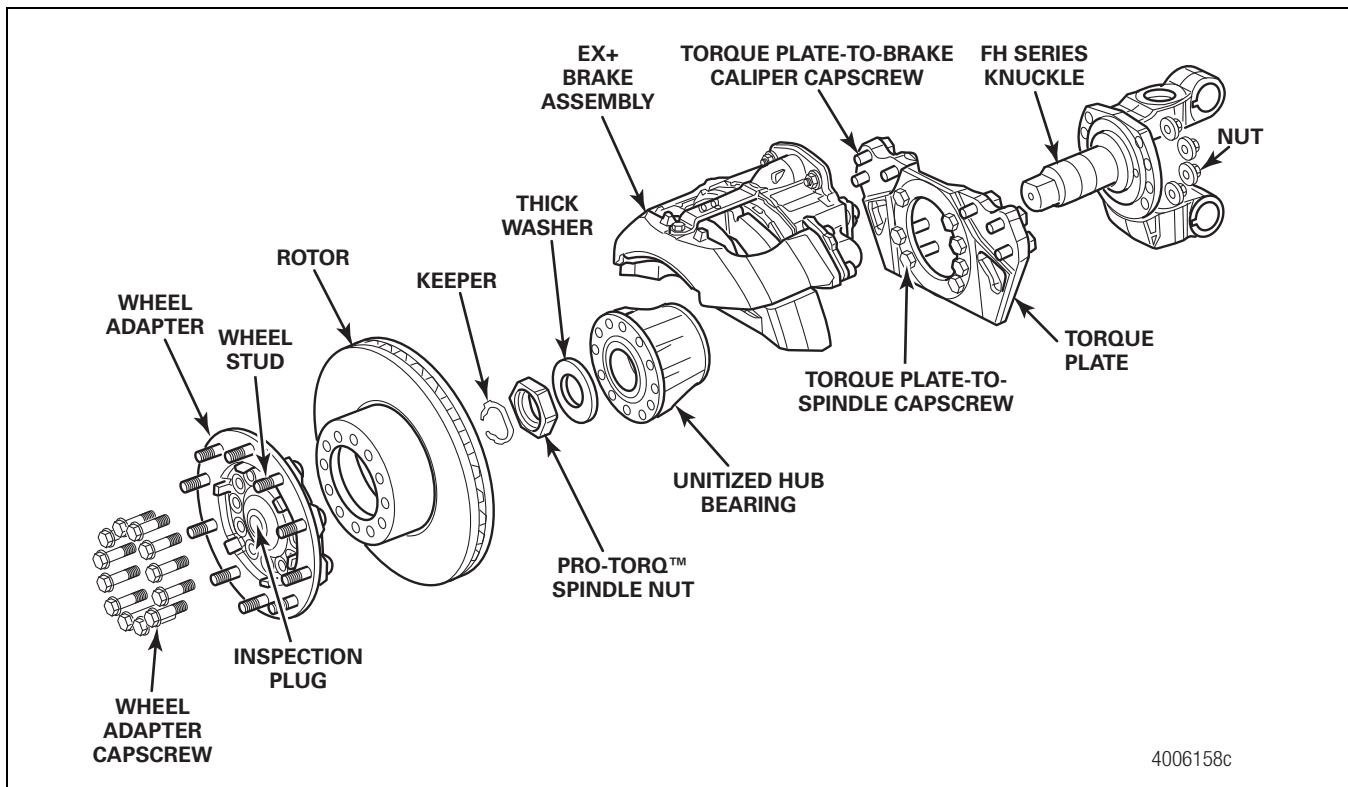

Figure 3.4
1. Verify that the wheel is mounted correctly and all wheel-end fasteners and hardware are tightened to the correct specification. Figure 3.4.